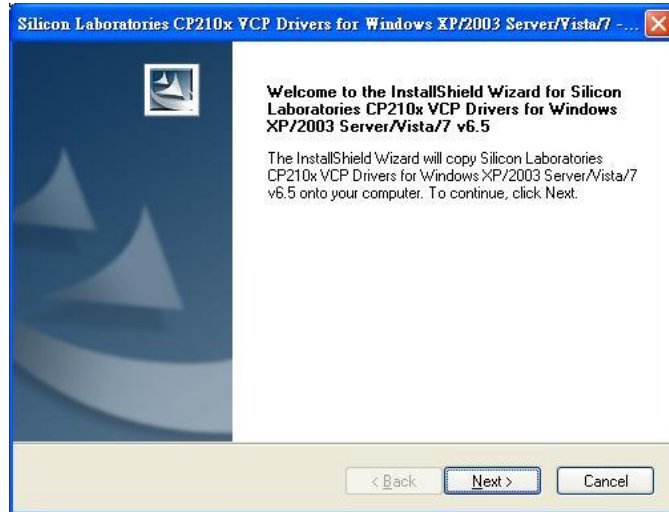

Figure 4-2: Driver Welcome Screen
Step 3: A welcome screen appears (**Figure 4-2**). To continue the installation process click **Next**.